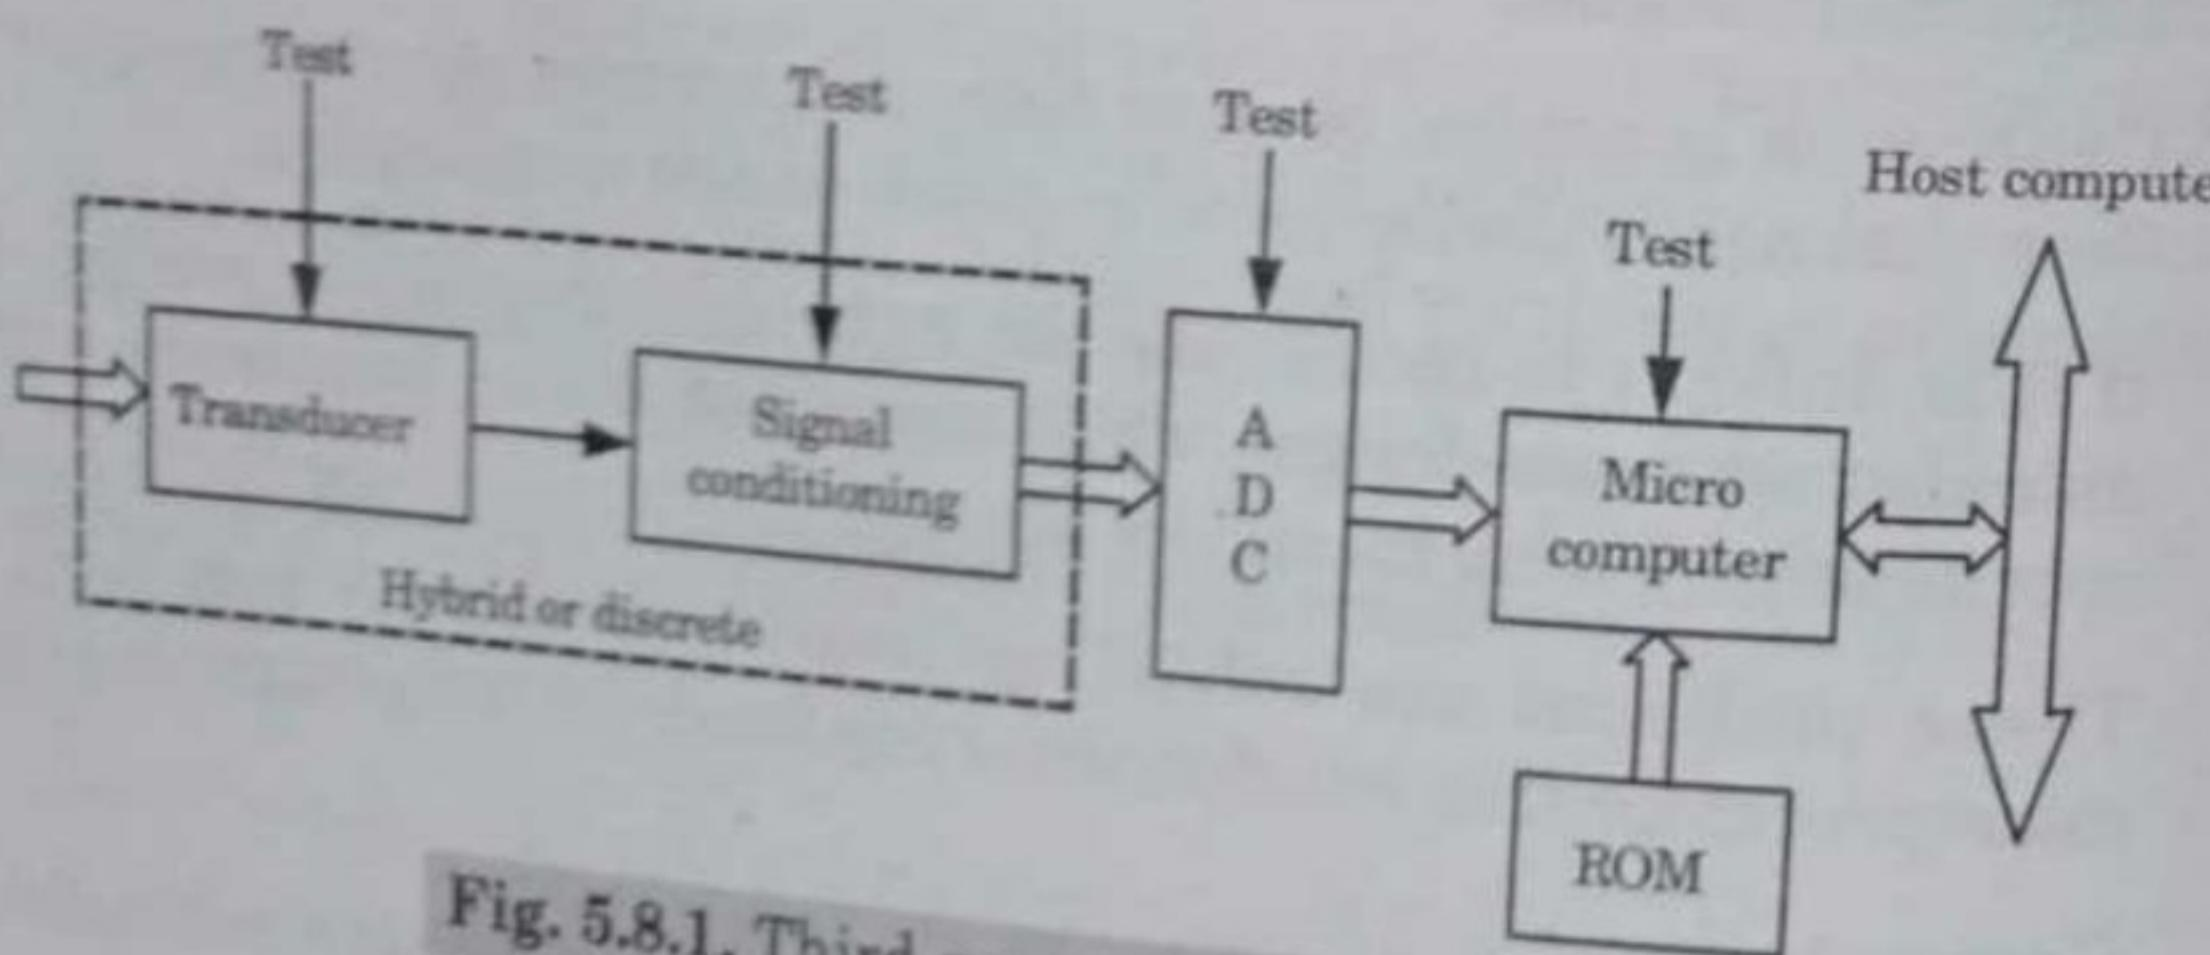

Fig. 5.8.1. Third generation smart sensor.
- The block diagram of a third generation smart device is shown in Fig. 5.8.1.